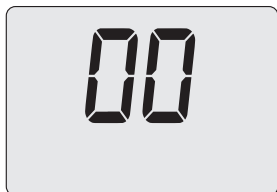

Figure 9.14
- Press 16 (Figure 9.11) to show the value of parameter P06 on the LCD display (Figure 9.14).